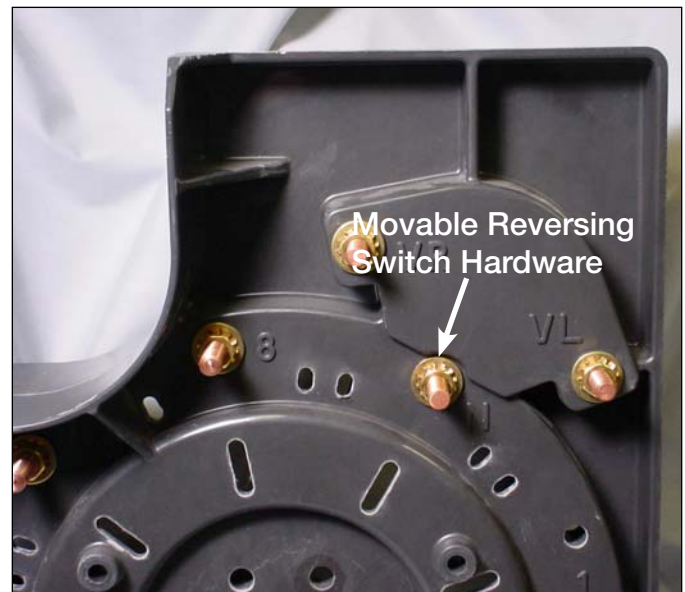

Figure 23.
- Using a 9/16 wrench, or 9/16 socket and ratchet loosen and remove the mounting nut on the stud of the reversing switch assembly. The reversing switch assembly stud is located between the reversing stationary contacts VR and VL on the stationary contact assembly on the contact panel. See Figure 23.